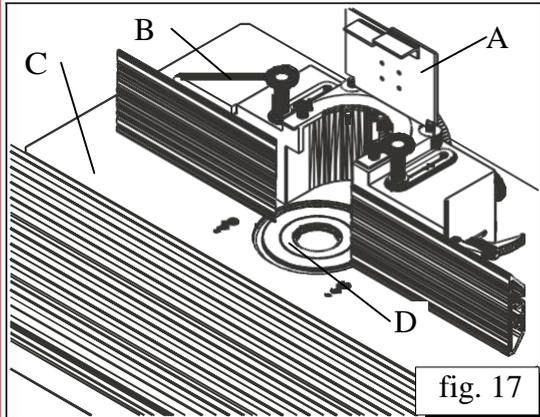

fig. 17
- Lift the cover A of the protection box B (fig. 17).